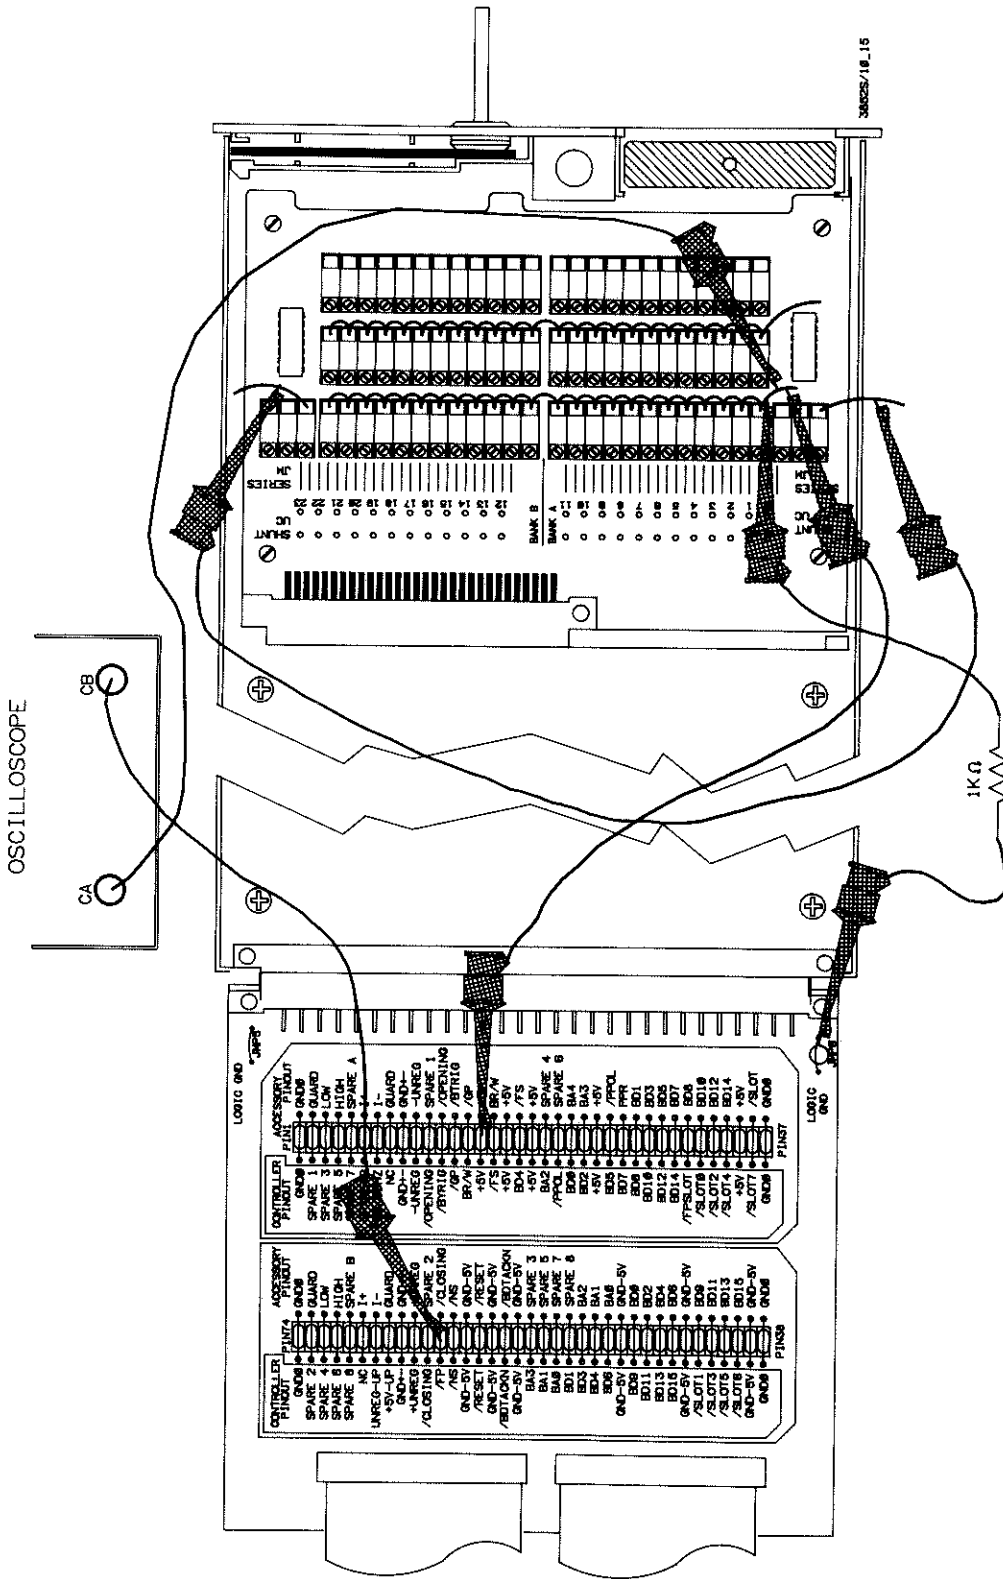

Figure 10-15 HP 44711A Closing Time Set-Up
1. Move the channel B oscilloscope probe to the CLOSING connection on the service module. The Closing Time test set-up is shown in Figure 10-15.